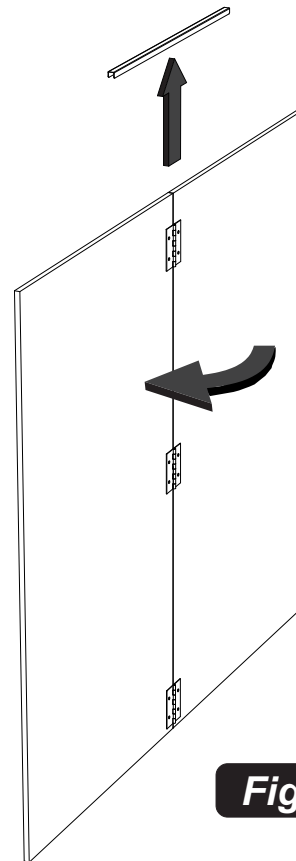

Figure 6
4. Remove stiffener and fold table for storage. See Figure 6. Lean table against wall or lay flat to store.